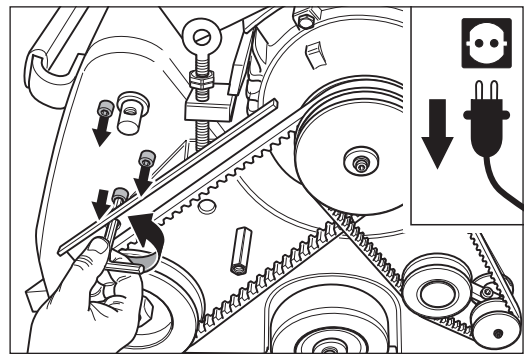

Fig. 36 Release and remove the three fixing screws of the drive unit. **Similar to figure.**
- 8 Hold on the drive unit and remove the three fixing screws of the drive unit **at the same time** (hexagonal socket screw wrench size 6 mm; Fig. 36). Therefore the drive unit cannot fall on the sanding drum.